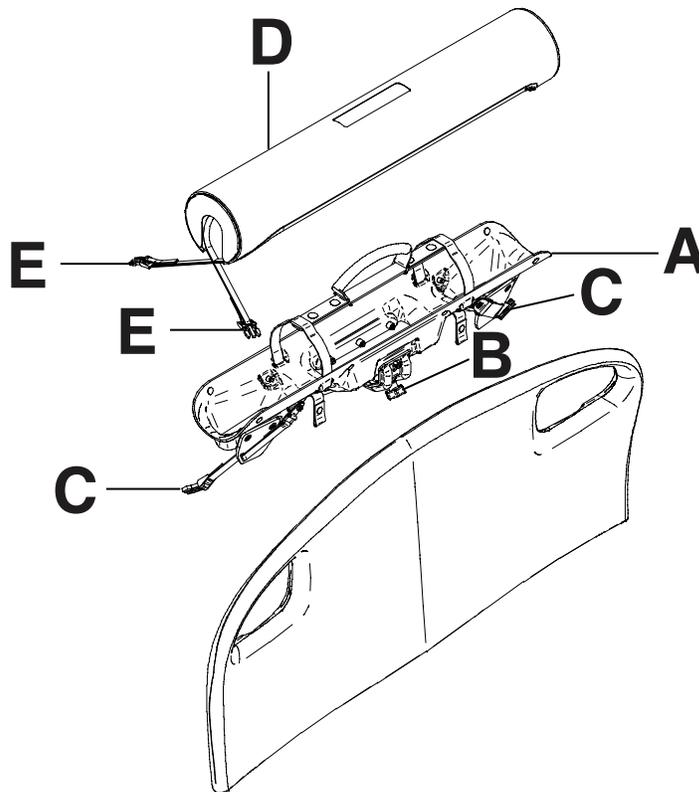

Figure 94: Right fit oxygen bottle holder
1. Place the oxygen bottle holder on top of the headboard (A) (Figure 94 on page 100).
2. Screw on the oxygen bottle holder clasp onto the headboard (B) (Figure 94 on page 100) to secure the bottle holder to the product.
3. Route the bottom straps (C) through the headboard handles (Figure 94 on page 100).
6. Place the oxygen bottle holder cover on top of the oxygen bottle (D) (Figure 94 on page 100).
7. Fasten the oxygen bottle holder cover straps together (E) (Figure 94 on page 100).